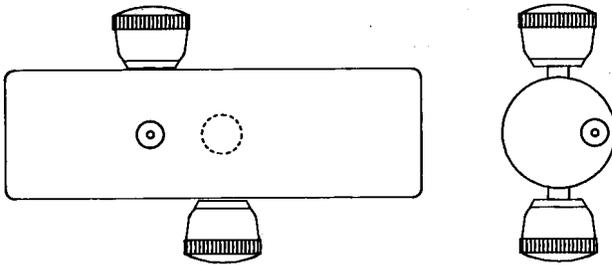

Fig. 11—206A, B, or C Connector
**2.04 206A Through C:** The 206-type connectors (Fig. 11) consist of a black cylindrical shell containing a metal insert assembly. These connectors are used in the L Carrier Telephone System. The right end of these connectors are designed for the insertion of a 337 or similar-type plug, but provide electrical termination for only the center conductor of the plug. The center conductor termination of the left and right ends of the connectors and the clamping studs attached to the knobs are electrically common.